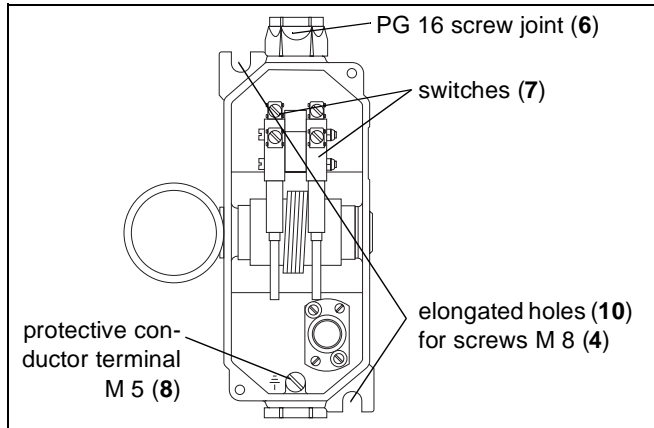

Fig. 5-13: Dismounting belt misalignment switches from the belt conveyor
3. Loosen the electrical connections to the switches (7) (see Fig. 5-13).
4. Loosen the protective conductor from the protective conductor terminal M 5 (8).
5. Unscrew the PG 16 screw joint (6) and pull the connecting cable out of the belt misalignment switch.
6. Loosen both screws M 8 (4) and remove the belt misalignment switch from the belt conveyor plant.